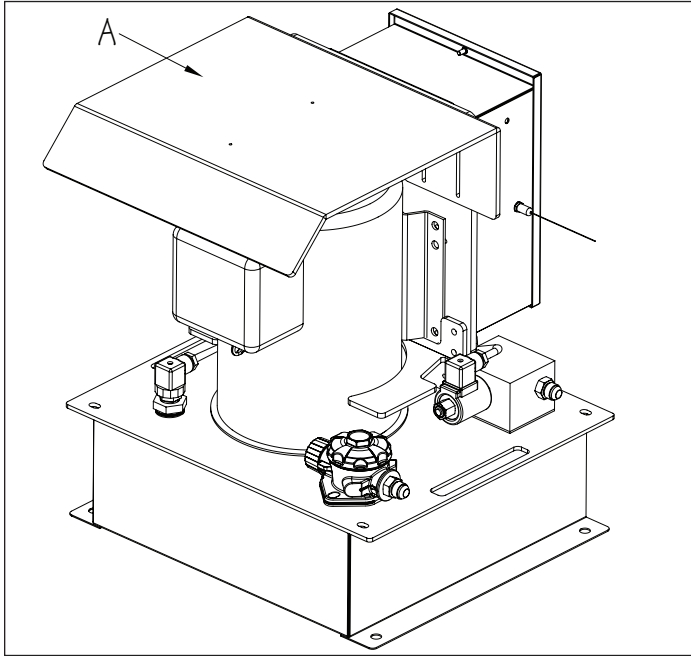

Fig. 26
The Hydraulic Power Unit should be placed on a solid, level surface, preferably not on wet ground. If placing the unit outside, it is recommended that the optional Weather Guard (A) be purchased but should not be subject to driving rain (Fig. 26). If placing the unit indoors and at a level below the pool deck, such as a basement, a floor drain is mandatory to accommodate the unlikely event of a hole developing in the hydraulic hose creating a siphon. For ample ventilation, a minimum of 12" (30,5cm) air space must be provided on all sides. In addition, the power unit MUST be accessible for service and maintenance purposes.